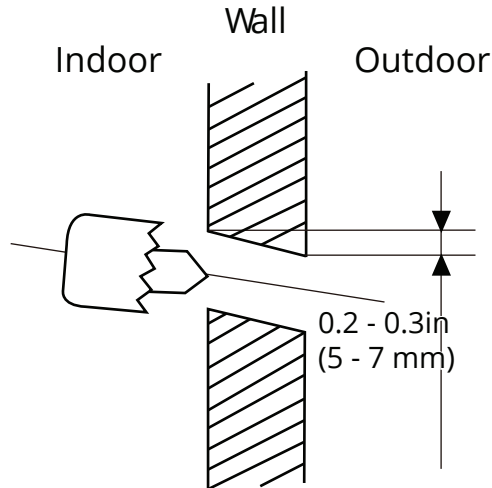

Fig.4.2
2. Using a core drill [3.54in (76.2mm)], drill a hole in the wall. Make sure that the hole is drilled at a slight downward angle, so that the outdoor end of the hole is lower than the indoor end by about 0.2 to 0.275in (5mm-7mm). This will ensure proper water drainage. (See Fig. 4.2)